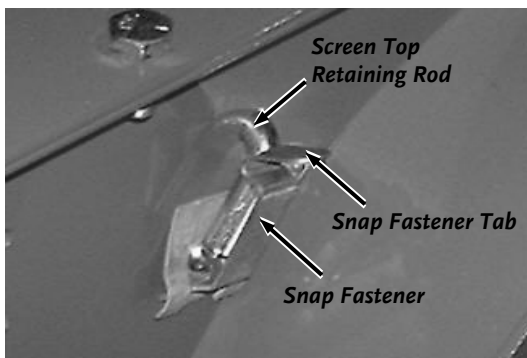

Figure 13
2. Remove the Screen Top Retaining Rod (**Figure 13**) by first releasing the Snap Fastener by bending the Tab down.